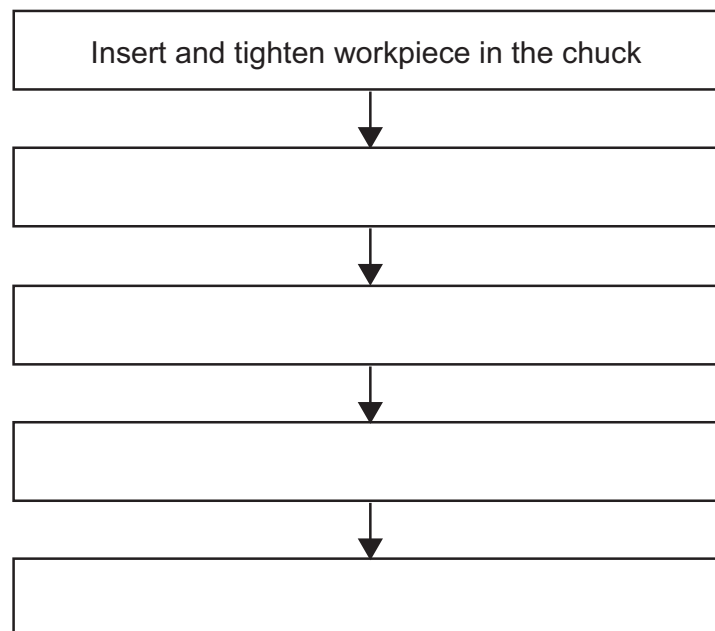

Fig. 3
- (d) The **five** bullet points below describe, in order, the general stages for operating a manual lathe to produce the component shown in **Fig. 2**. Complete **Fig. 3** by **summarising** each of the bullet points as a key factor of each of the remaining stages.